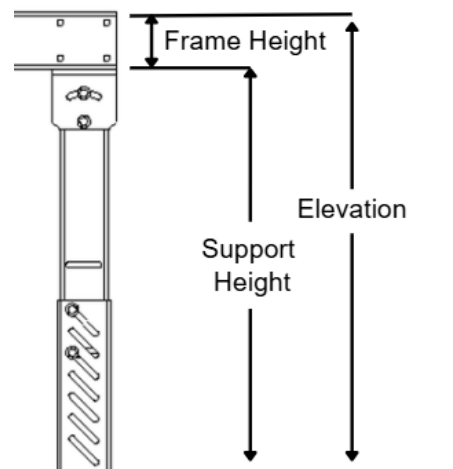

Figure 2.1 - Support Height Adjustment, Models SPH and SPM
- If you have slotted adjustable height supports (models SPH or SPM) as shown in *Figure 2.1*, follow instructions below. If you have jack bolt supports, see *Appendix A*.
- See *Figure 2.1*. Determine your desired conveying height (ELEVATION). Measure the conveyor frame, then subtract this measurement from the height you set the support to. Desired ELEVATION minus frame height equals support height.